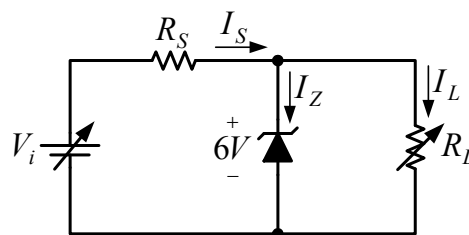

Fig. 7-12
3. The 6-V zener diode in Fig. 7-12 has a maximum rated power dissipated of 690 mW. Its reverse current must be at least 3 mA to keep it in breakdown. Find a suitable value for R_S if V_i can vary from 9 V to 12 V and R_L can vary from 500 Ω to 1.2 kΩ.